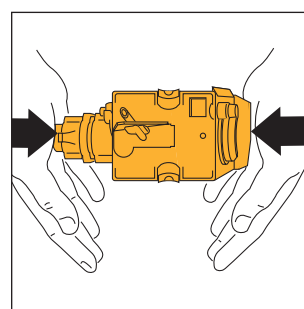

Fig.32
**NOTE 2:** if it is hard to insert the infuser, (before inserting it) squeeze it into size by pressing it vigorously from above and below at the same time, as shown in Figure 32